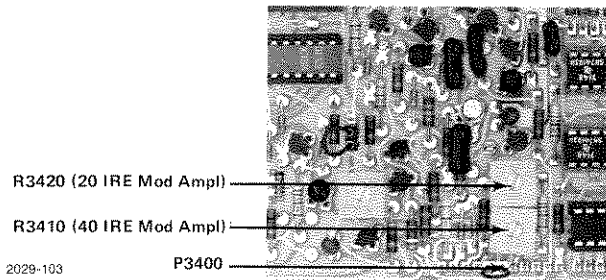

Fig. 3-34. Linearity chrominance adjustment and connector locations.
**ADJUST**—R3410 (40 IRE Mod Ampl), see Fig. 3-34, for exactly 285.7 mV (40 IRE).
**ADJUST**—R3420 (20 IRE Mod Ampl), see Fig. 3-34, for exactly 142.9 mV (20 IRE).